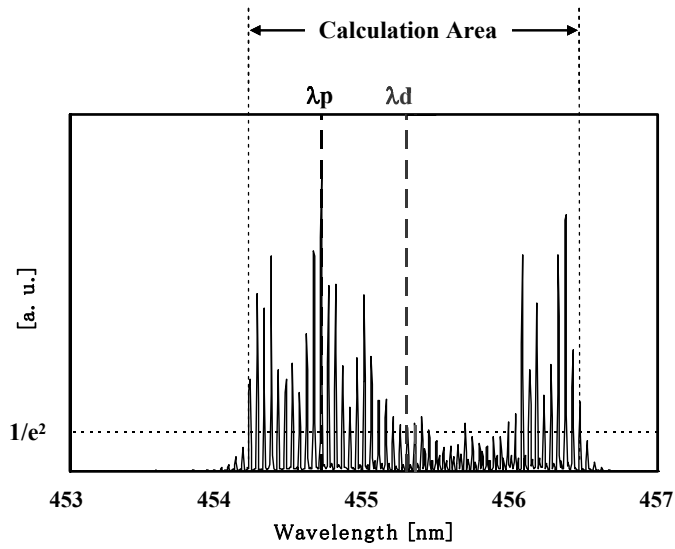

Fig.2 Definition of Dominant Wavelength
*7) λ_d is defined from trichromatic coordinate (x, y) values on chromaticity diagram calculated from the peak intensity higher than $1/e^2$ shown in Fig.2.